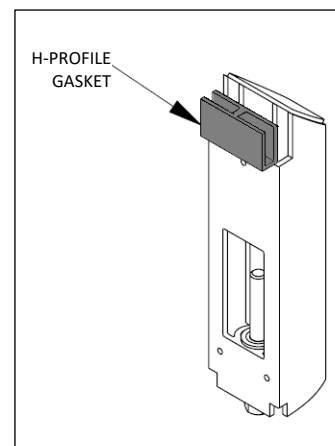

Fig. F6 – Rear glass spacer gasket
4. Install spacer gaskets in lower posts, see Fig. F6 for orientation.